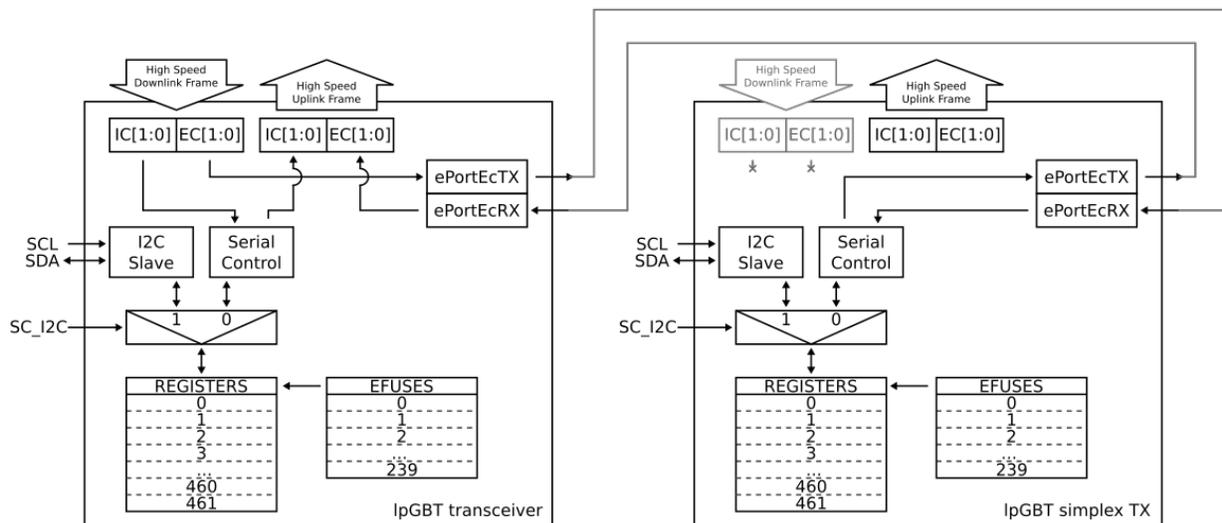

Fig. 3.1: IpGBT configuration
2. Through the serial interface. In the transceiver mode, the data for the serial interface is taken from the GBT frame and hence requires that the full duplex link is operational to allow write and read access (see left IpGBT in figure Fig. 3.1). In the simplex mode, the data is provided by `ePortRxEc/ePortTxEc` channel (see right IpGBT in figure Fig. 3.1). In order to use this interface the external pin `SC_I2C` has to be set to 0 (which is the default value when the pin is left unconnected). This interface is described in detail in chapter Section 3.4.
The availability of IC or EC configuration interfaces is dictated by the mode of operation. If lpGBT is configured in transceiver mode, IC channel is used to control the chip. Otherwise, in simplex transmitter or simplex receiver modes, EC channel is used to control the chip (see Fig. 3.1).